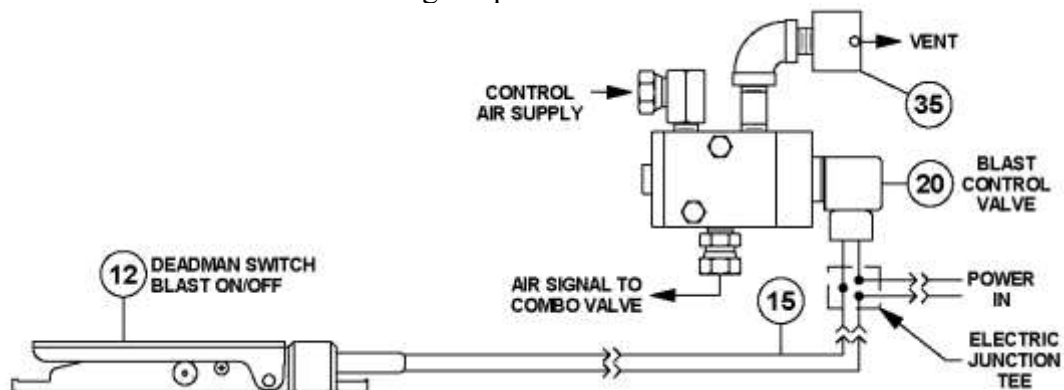

Figure 5.5 – Tera Valve™ Electric Blast Control System
5.9.2. Electric Deadman System: When the electric deadman lever (#12) is pressed down it closes the electric circuit and supplies electric current to the control valve (#20). The control valve opens and sends air signals to the auto air valve (#9) and the TeraValve (#14). When the deadman lever is released, the electric circuit is cut off, closing the control valve. The signal air vents from the breather (#35). See Figure 5.5 and the drawing in Section 9.2.